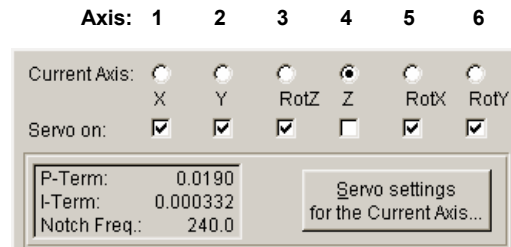

Fig. 45: Servo ON/OFF and Current Axis selection
5. The measurement must be done in open-loop mode. Uncheck the *Servo ON* boxes for all axes to be measured (Fig. 45). Axis numbers start with 1 on the left.
buttons (in Fig. 45, Axis 1).
3. Set servo-control ON for all affected axes (see Fig. 45).